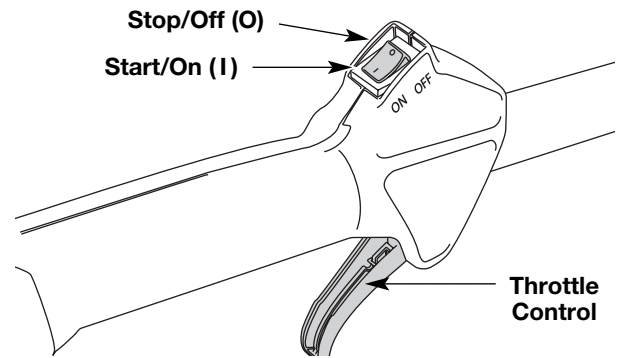

Fig. 11
**NOTE:** There is no need to turn the unit on. The On/Off Stop Control is in the ON (I) position at all times (Fig. 11).